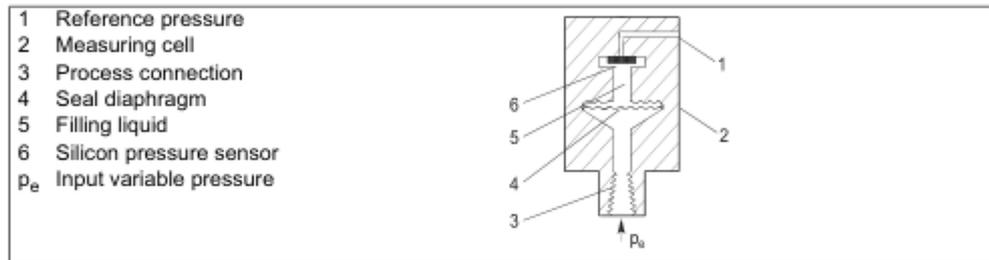

Figure 6 Pressure measuring cell, functional diagram
The pressure p_e is fed in through the process connection (3, Figure 6, pg. 18) of the measuring cell (2). It is passed further through the seal diaphragm (4) and the filling liquid (5) to the silicon pressure sensor (6) and its measuring diaphragm flexes as a result. Four piezo-resistors in bridge circuit doped in the measuring diaphragm change their resistance as a result. The change in resistance causes a bridge output voltage proportional to the input pressure.